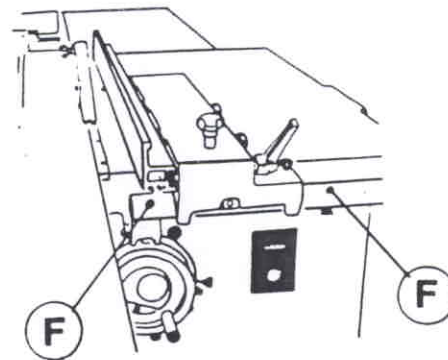

Fig.61
- 4) Supports (F fig.61) of the parallel fence